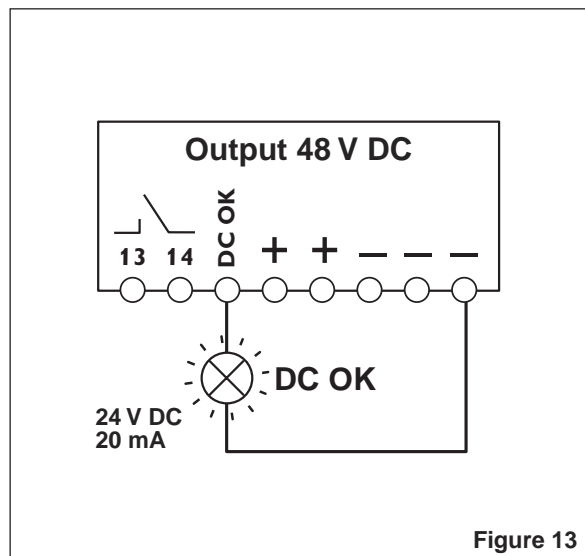

Figure 13
**Active Signal Output (Figure 13)**
With heavy loads, the working point demonstrates the U/I characteristic curve shown in Figure 13. The output current is limited to 25 A.